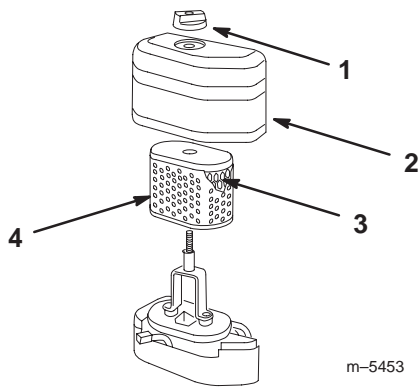

Figure 19
2. Unscrew the knob and remove the air cleaner cover (Fig. 19).